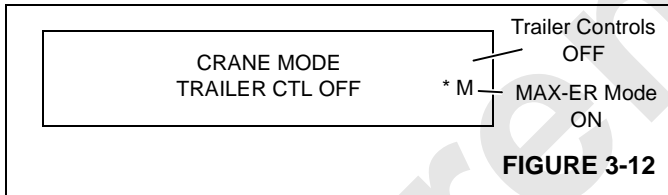

FIGURE 3-12
- Then turn key counterclockwise and release to confirm TRAILER CTL ON mode. Screen shown in Figure 3-12 appears. **This is mode that must be used when MAX-ER trailer is attached to rear of crane.**